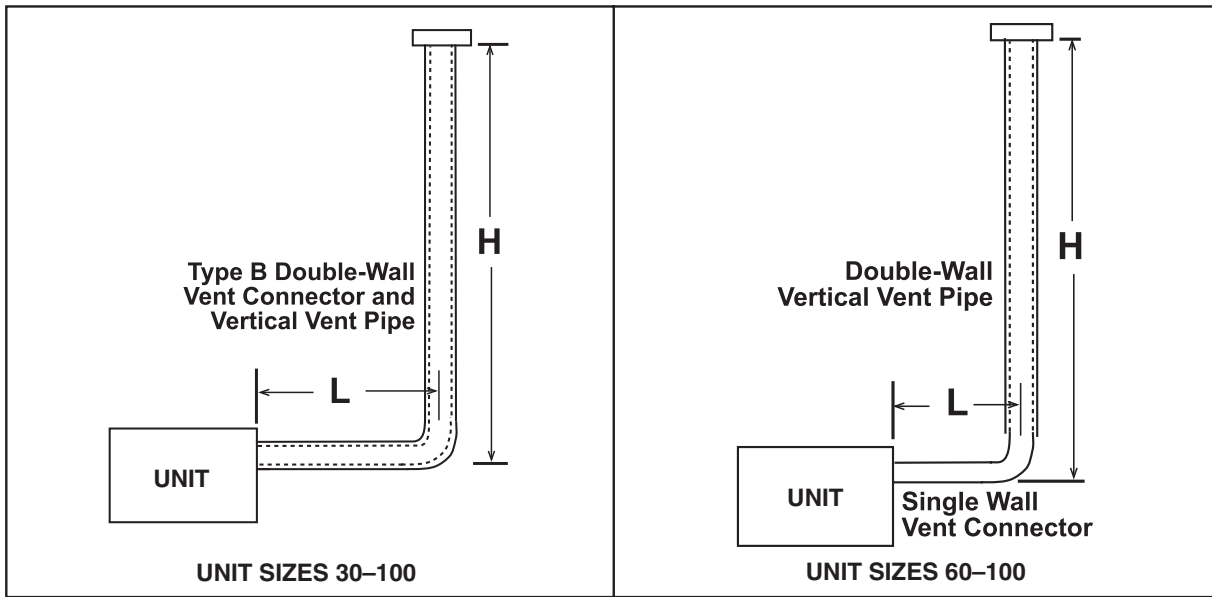

Figure 14. Typical Category I Dedicated Vent (Refer to Table 15)
1. Select vent pipe and vent connector for Category I vent (see Figure 14). Note that unit sizes 60–100 may use single- or double-wall vent connector.
H x L (See Figure 14) Dimension (Feet (Meters))